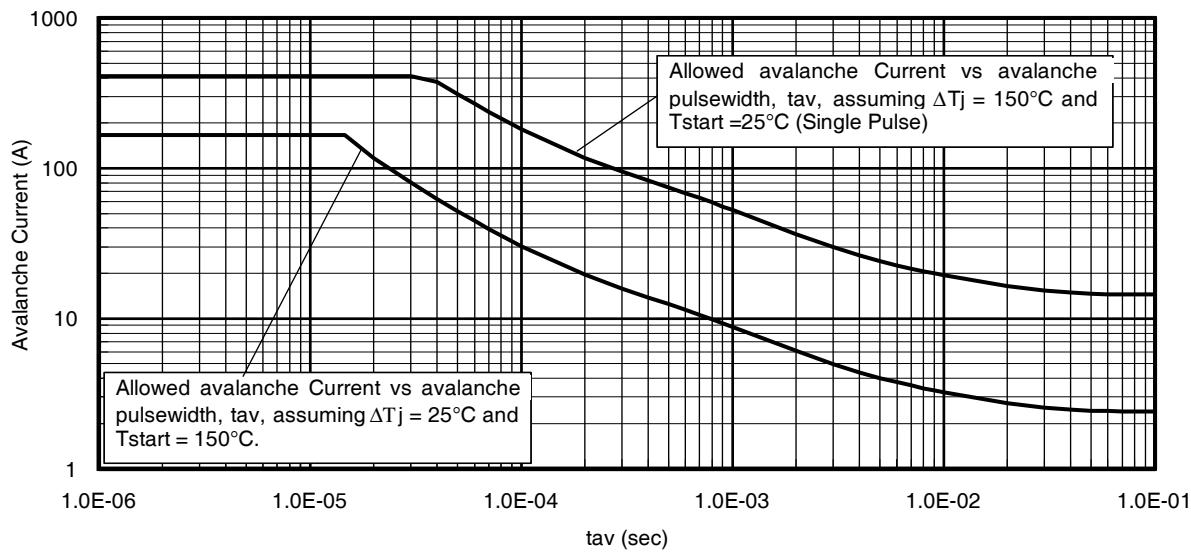

Fig 14. Typical Avalanche Current vs.Pulsewidth
Notes on Repetitive Avalanche Curves , Figures 14, 15 (For further info, see AN-1005 at www.irf.com)
7. ΔT = Allowable rise in junction temperature, not to exceed T_{jmax} (assumed as 25°C in Figure 14, 15).